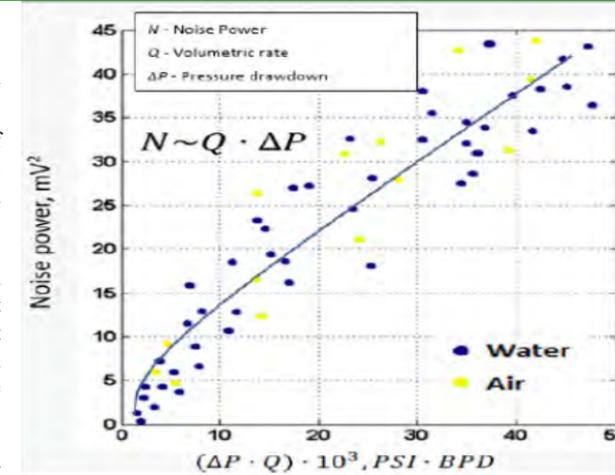

Fig 2: First realization of linear Q.dp vs NP relationship (McKinley²)
laboratory studies investigating the relationship between energy dissipated by fluid flow through a media (equivalent to the product of flow rate and pressure differential) and the strength of associated acoustic signal generated (noise power). Figure 2 presents McKinley's results, revealing a linear though scattered relationship. The scattered distribution of McKinley's data is linked to limitations of the equipment used at the time. Noise Power (NP) represents a fraction of kinetic energy that is lost from the system as noise, so it is not surprising that it varies linearly with system enthalpy. Little or no research work has been done since the McKinley experiments, until 2012 when the implications of what the study revealed were realised.